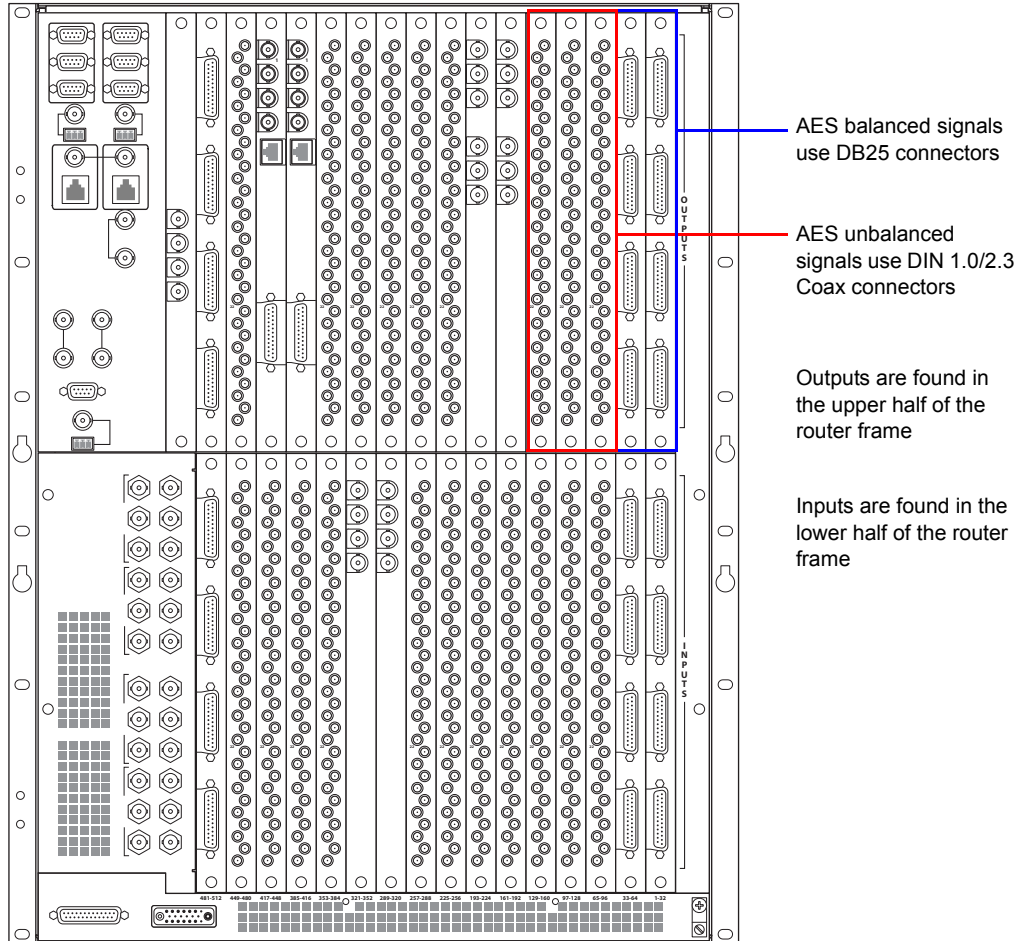

Figure 2-8. AES signal connections (Rear View)
- 1 Locate the AES *input* connections at the rear of the router, as shown in Figure 2-8. Inputs are located in the lower half of the router frame. The exact location of the backplanes and corresponding connectors may be different depending on your router configuration.
- 4 Locate the AES *output* connections on the rear of the router, as shown in Figure 2-8 on page 46.